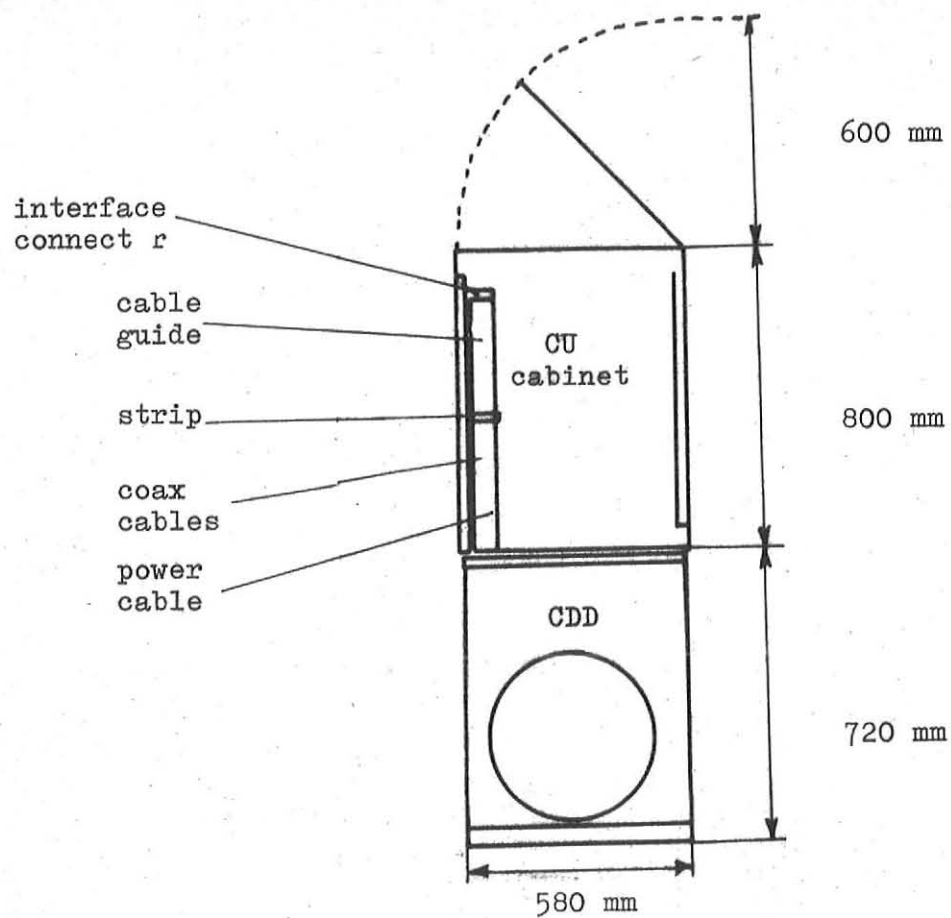

Figure 10-1 SPACE ALLOCATION
1.1 SPACE LOCATION (figure 10-1)